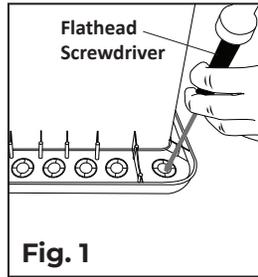

Fig. 1
1. Place the laundry tub on a clean surface, such as a blanket or cardboard, and turn the tub upside down to allow for the removal of the pre-formed knockouts. These will accommodate the faucet that is going to be installed. The hole plugs may be removed by a flathead screwdriver or a small chisel and a hammer (see Fig. 1).